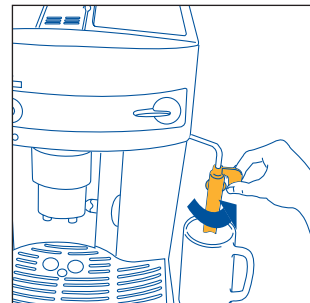
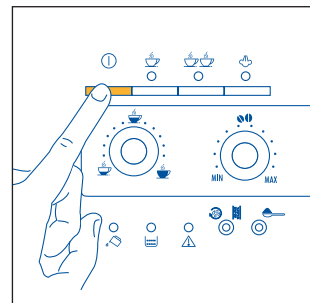

Fig.3
Fig.4
2. Move the milk frother towards the outside and place a cup underneath (Fig.3). Then turn the machine on by pressing the  button (Fig.4).
- Turn the milk frother towards the outside of the machine (Fig. 3).
- Position a container underneath the milk frother (Fig. 3).
- Move the milk frother towards the outside (Fig. 3).